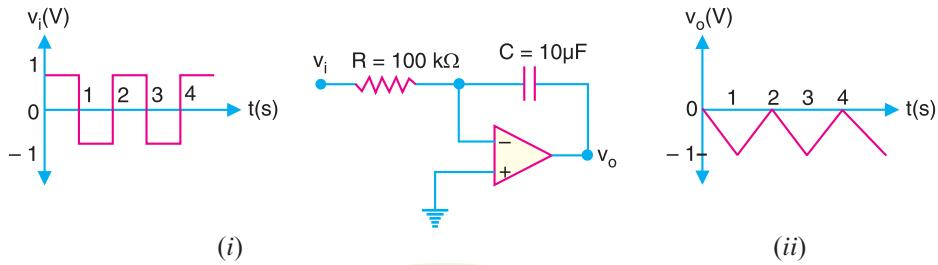

Fig. 25.84
**Example 25.50.** Fig. 25.84 (i) shows the OP-amp integrator and the square wave input. Find the output voltage.
When we integrate a constant, we get a straight line. In other words, when input voltage to an integrator is constant, the output is a linear ramp. Therefore, the integration of the square wave results in the triangular wave as shown in Fig. 25.84 (ii). Since the input to the integrator is applied to the inverting input, the output of the circuit will be  $180^\circ$  out of phase with the input. Thus, when the input goes positive, the output will be a negative ramp. When the input is negative, the output will be a positive ramp. Fig. 25.84 (ii) shows this relationship.